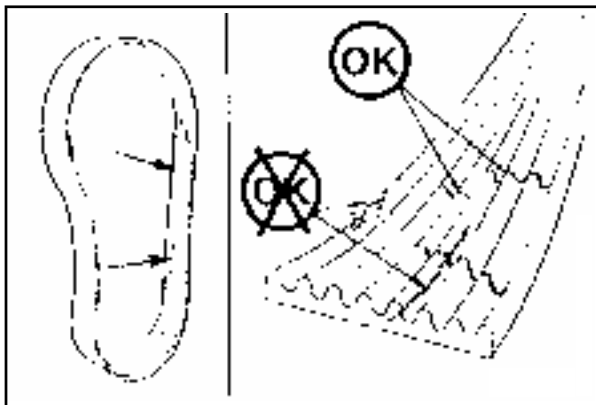

FIG 8.43
**INSPECTION** - Visually inspect the belt daily. Check the belt for intersecting cracks (fig. 8.43). Transverse (across the belt width) cracks are acceptable. Longitudinal (direction of belt length) cracks that intersect with transverse cracks are not acceptable. Replace the belt if it is frayed or has pieces of material missing.